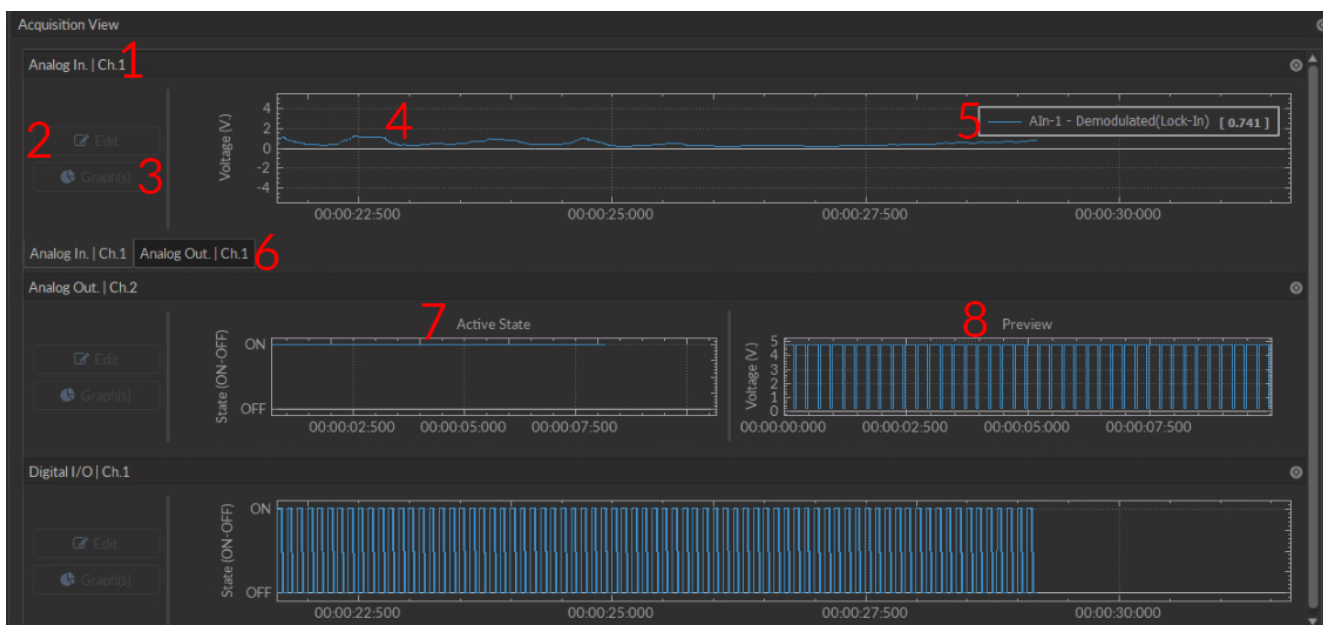

Figure 3.21: Acquisition View Box
1. The **Channel name** is located on the upper left of the **Channel box** (Fig. 3.21), identifying the type of channel and it's number, corresponding to that on the console. This name can be modified in the **Graph options** window.
2. The **Edit** button (Fig. 3.21) allows the editing of channel parameters, opening the channel configuration windows. For further information, see section 3.1.1.
3. The **Graph(s)** (Fig. 3.21) button opens the **Graph Options** window.
4. The **Graph** (Fig. 3.21) box displays the graph of a channel, with **Voltage** or **State** as the vertical axis and **Time** as the horizontal axis. Double-clicking either axis will open a **Change Axis Range** window that allows the axis limits to be changed, as in the **Zooming Menu**. Any changes done on a horizontal axis will change the axis limits for each channel.
5. The **Instant values** box (Fig. 3.21) can be activated by right-clicking the **Input graph** box and selecting **Show instant values**. This box shows the current value detected by the console for each trace on the selected channel. This box cannot be activated on **Preview graphs**.
6. The **Channel tabs** (Fig. 3.21) appear in certain input modes (such as **Interleaved** and **Lock-in**) where the input automatically sets the output values on separate channels. It is possible to create a **Channel tab** by undocking one channel and moving it above another until it turns blue, then releasing it.
7. Analog output channels display an **Active state** graph (Fig. 3.21). This graph displays whether the channel is outputting a signal (On, $V \neq 0$) or not (Off, $V = 0$).
8. Output channels display a **Preview** graph (Fig. 3.21), showing a preview of the pulse sequence.